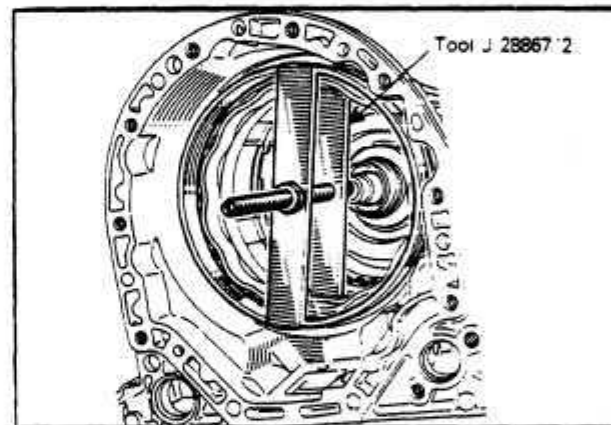

Fig. 44 BRAKE B-2 PISTON REMOVAL
1. Remove the tension on the B-2 piston return springs using the special tool (part of the A T Tool Kit). Tighten the tool until the ring on the tool bottoms against the piston *Fig. 44*. Remove the lock ring securing the spring plate.
5. Fit the piston return springs and spring retaining plate on the piston. Tighten the spring compressor J 28867/2 until the tool contacts the face of the piston and install the lock ring. *Fig. 44*
7. Remove the tool and insure that the piston is properly seated by placing a straight edge across the face of the case and measuring the distance to the piston in three (3) different locations. The readings should be the same.